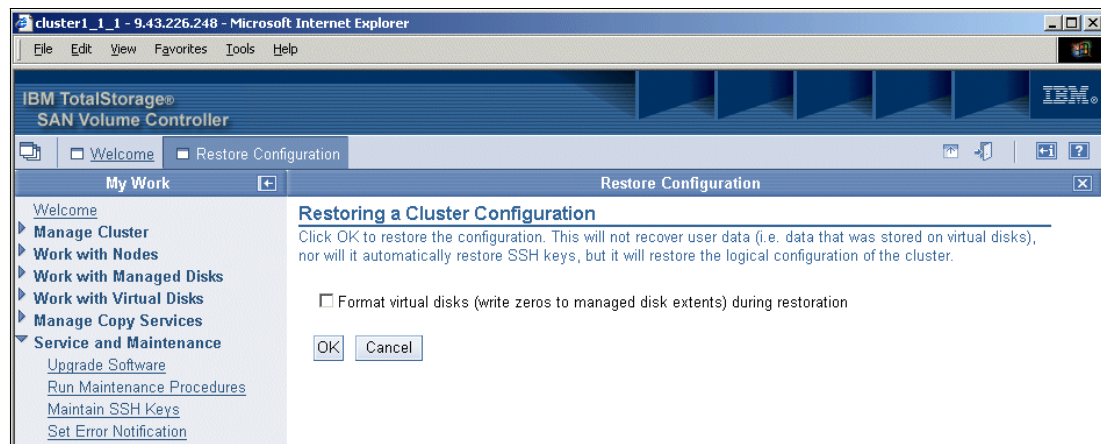

Figure 9-101 Restoring a Cluster Configuration panel
2. On the Restoring a Cluster Configuration panel (Figure 9-101), click the **OK** button. Do not select the Format virtual disks (write zeros to managed disk extents during restoration) check box.